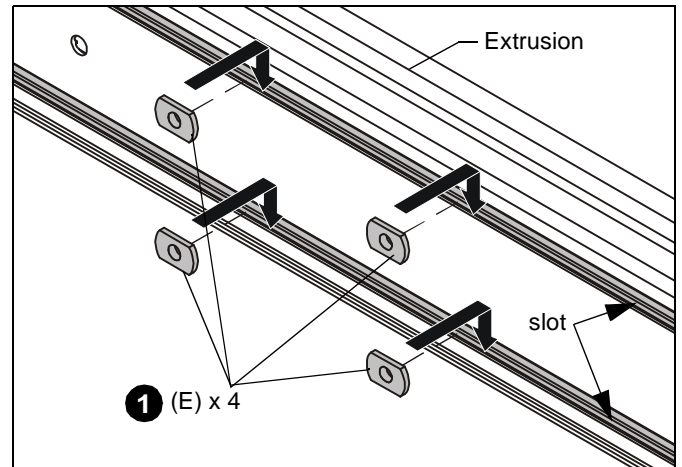

Figure 3
1. Insert four 1/4-20 weldnuts (E) into slot in mount extrusion. (See Figure 3)